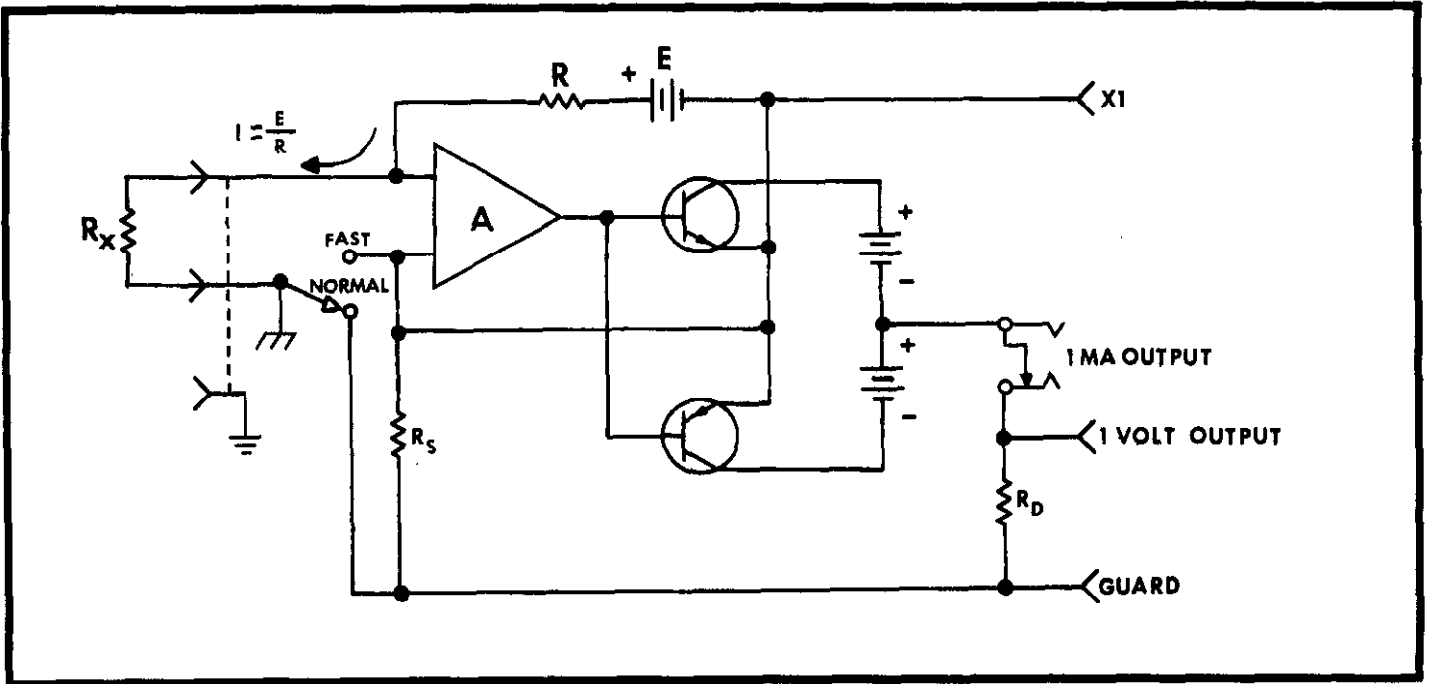

FIGURE 13. Ohmmeter Normal Mode.
a. The Model 615 ohmmeter circuit provides a self-generated constant-current which is applied to the unknown input resistance. The constant-current source is represented by a voltage source E and series resistor R as shown in Figure 13. The Electrometer amplifier measures the voltage drop across the unknown resistance R_x to provide a digital display and analog output proportional to the unknown resistance.